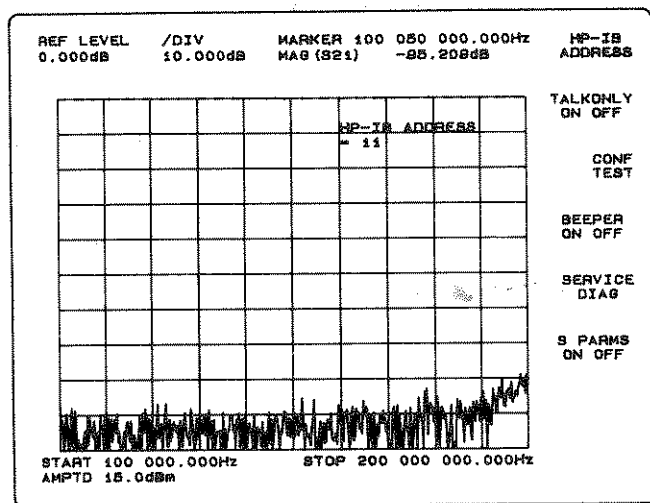

Figure 3*2
- 2 Press the "HP-IB ADDRESS" softkey (top item in the display menu). The address will appear in the entry block. See Figure 3*2.